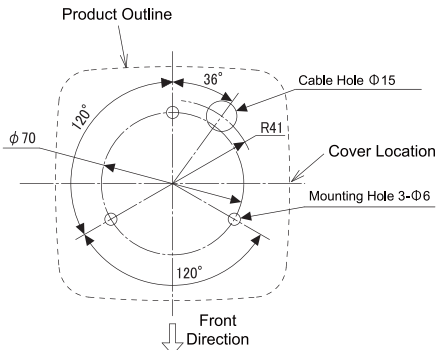

Figure 2:
- ② Refer to Figure 2 below for the mounting dimensions and drill mounting holes on a mounting surface.